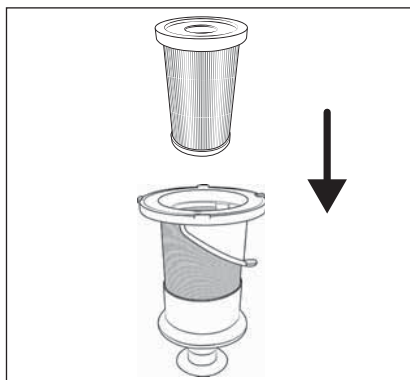

Fig. 27
① Note
- 7) Insert the EPA filter **5** into the stainless steel filter **6** (see Fig. 27).